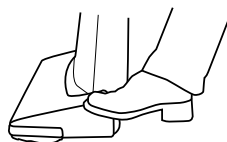

Fig. 1
1. To release the handle, step on the on the left rear corner of the vacuum cleaner nozzle (Fig. 1).